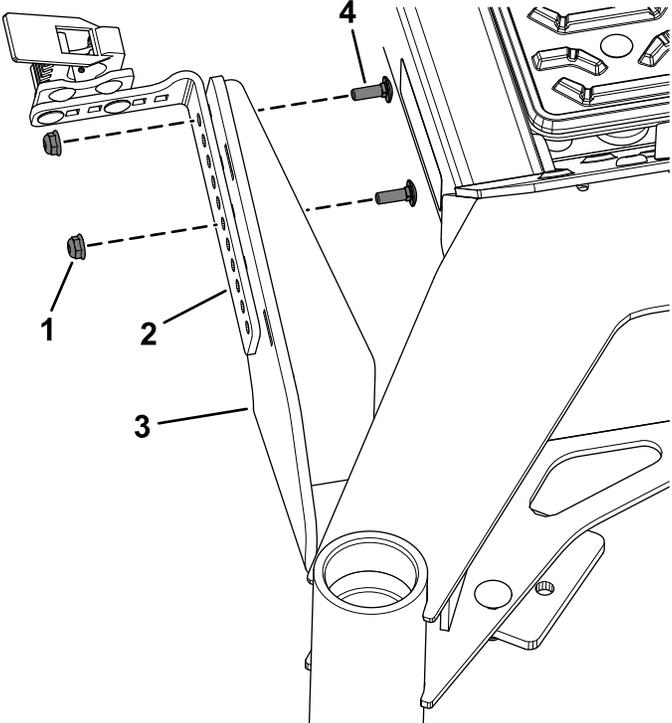

Figure 8
2. Secure the trimmer mount bracket assembly to the lower trimmer mount assembly using 2 carriage bolts (1/4 x 3/4 inch) and 2 flange nuts (1/4 inch) as shown in Figure 8.